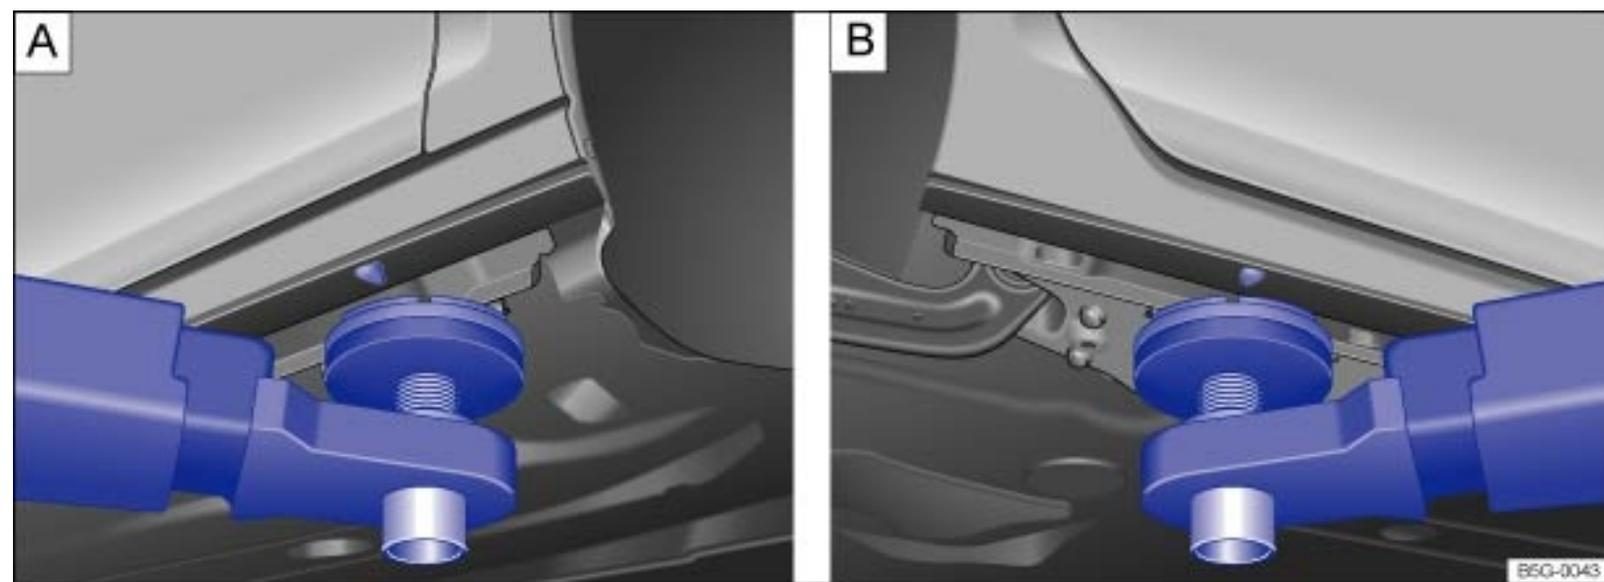

Fig. 198 : Lifting point at the front. : Lifting point at rear for lifting the vehicle using a workshop hoist or floor jack.
The vehicle may only be raised at the lift points shown in the illustration → Fig. 198. If the vehicle is lifted at different points, vehicle damage → ⚠ and serious injuries may occur → ⚠.
- Always lift your vehicle only at the designated lift points shown in the illustration → Fig. 198 . Not using the designated lift points can cause the vehicle to fall off the floor jack when heavy parts such as the engine or transmission are removed.